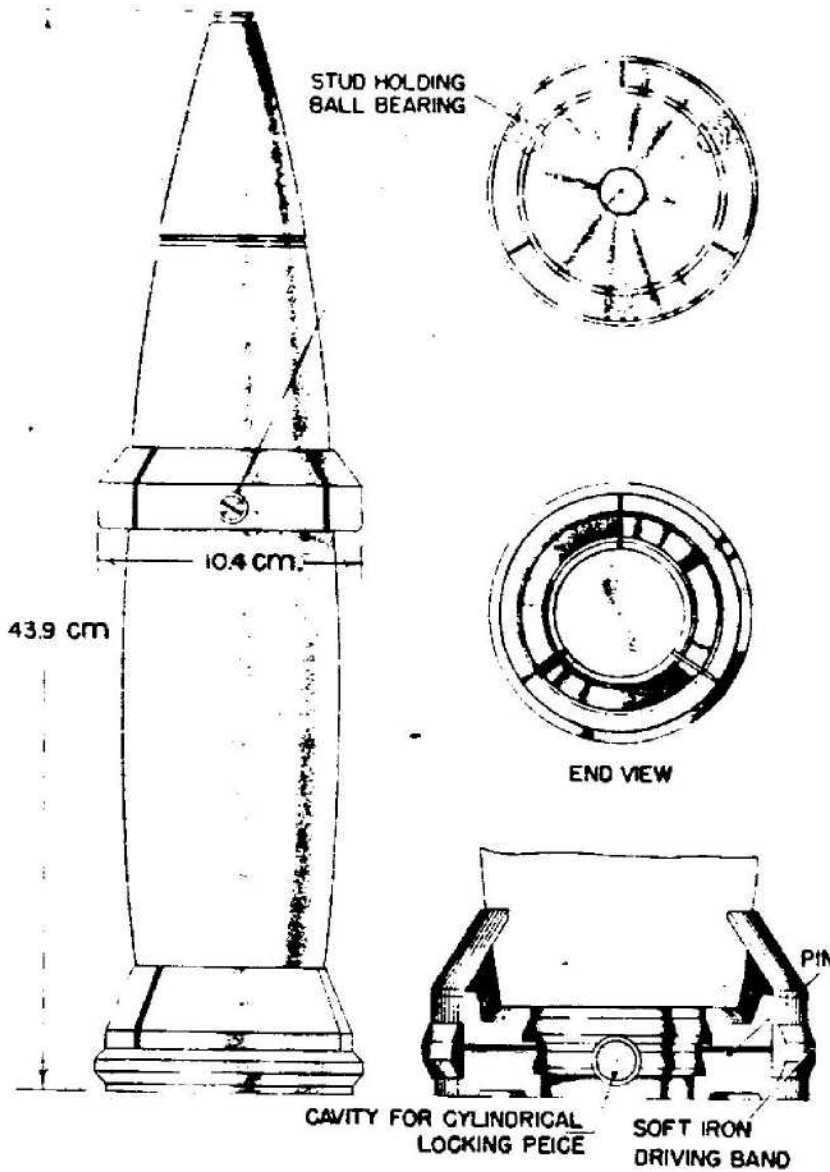

Figure 336—H. E. Projectile with Disintegrating Bands, 105-mm
**GERMAN DESIGNATION:** Not known. (See fig. 336.)